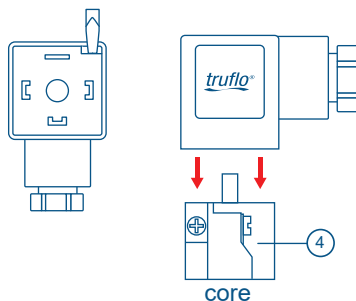

Fig.2
2. Use a screwdriver or similar tool to push out the core (part 4) from the junction box (Fig. 2).